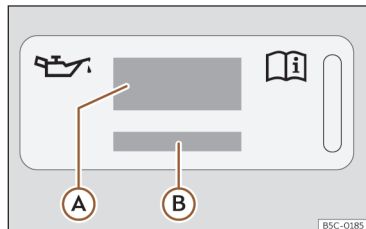
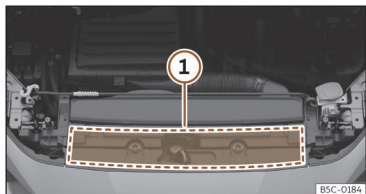

Fig. 229 In the engine compartment: engine oil label
Fig. 230 In the engine compartment: area where the engine oil label is located
Key to >>> **Fig. 229:**
If the engine oil has to be topped up, use one of the oils shown on the label >>> **Fig. 229**. The label with the prescribed standard is located at the front of the engine compartment >>> **Fig. 230** **1**. If you use the recommended engine oil, you can top up the oil as often as necessary.
- If the label showing the engine oil specifications is missing >>> Fig. 229, please contact a specialist workshop.